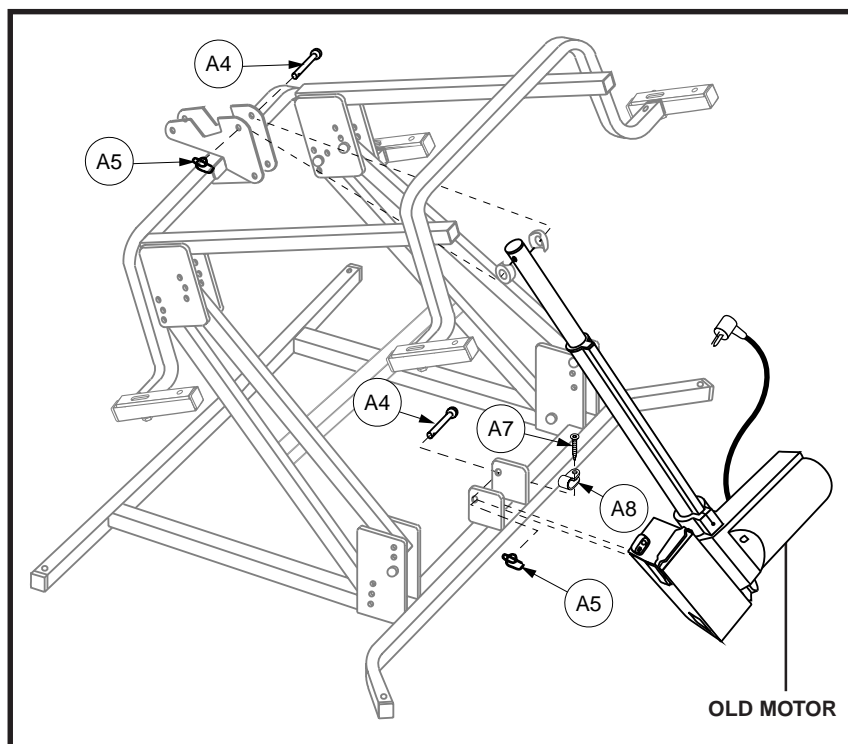

Figure 1. Motor Removal
3. Remove the cotter pins (A5) and clevis pins (A4) that fasten the motor to the frame. See figure 1.
4. Unscrew the cable clamp (A7 and A8) that fastens the power cord to the frame. See figure 1.